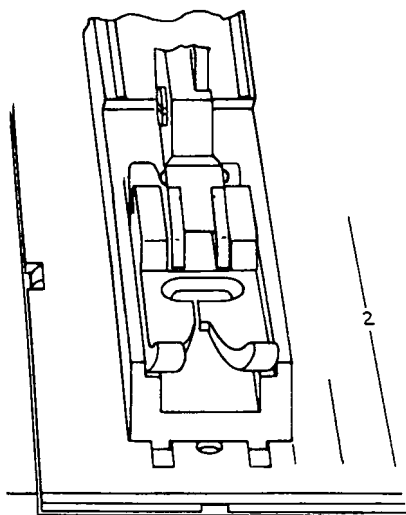

Fig. 8
- At the same time, insert presser foot gauge No. 63-114690-39 from the rear under the zigzag foot and into the cutouts of the needle plate (fig. 8).